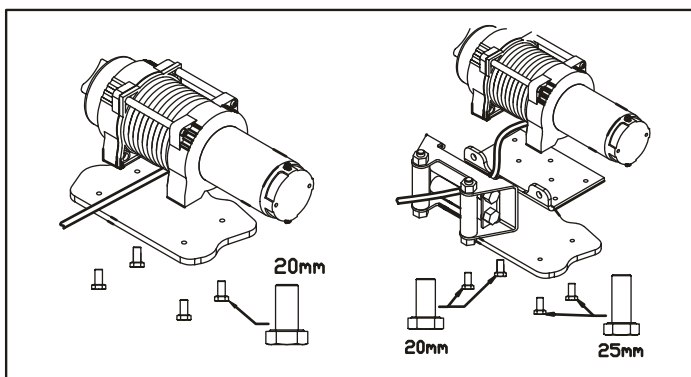

Figure 1: Orientation of winch to mounting plate and bolt lengths
Step 1 - Mount the Winch (Figure 1)
Note: When using separate winch mount and fairlead plates use hex head cap screws on the motor side of the base as shown in Figure 1.